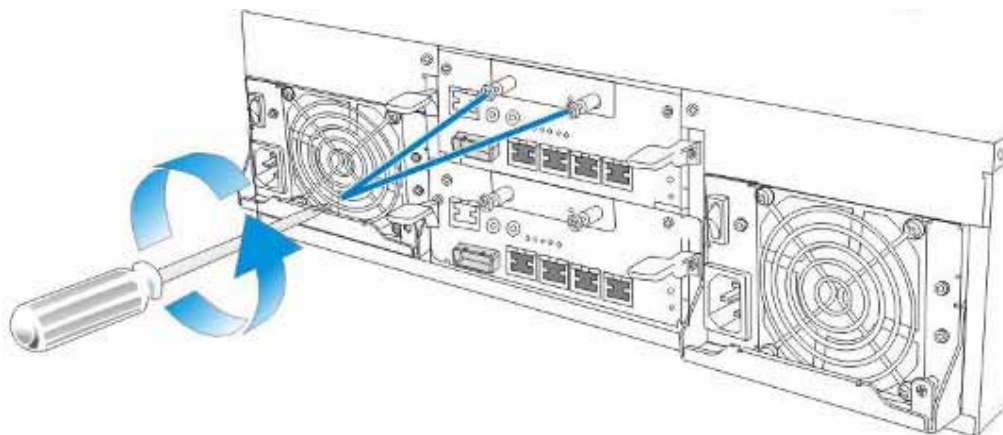

Figure 5-5: Remove the Retention Screws from BBU Faceplate
- Step 1. Remove the faulty BBU from the chassis.** The BBU module is secured to the chassis with two (2) screws. Loosen the retention screws on the BBU faceplate, then pull out the BBU. (See **Figure 5-5**)